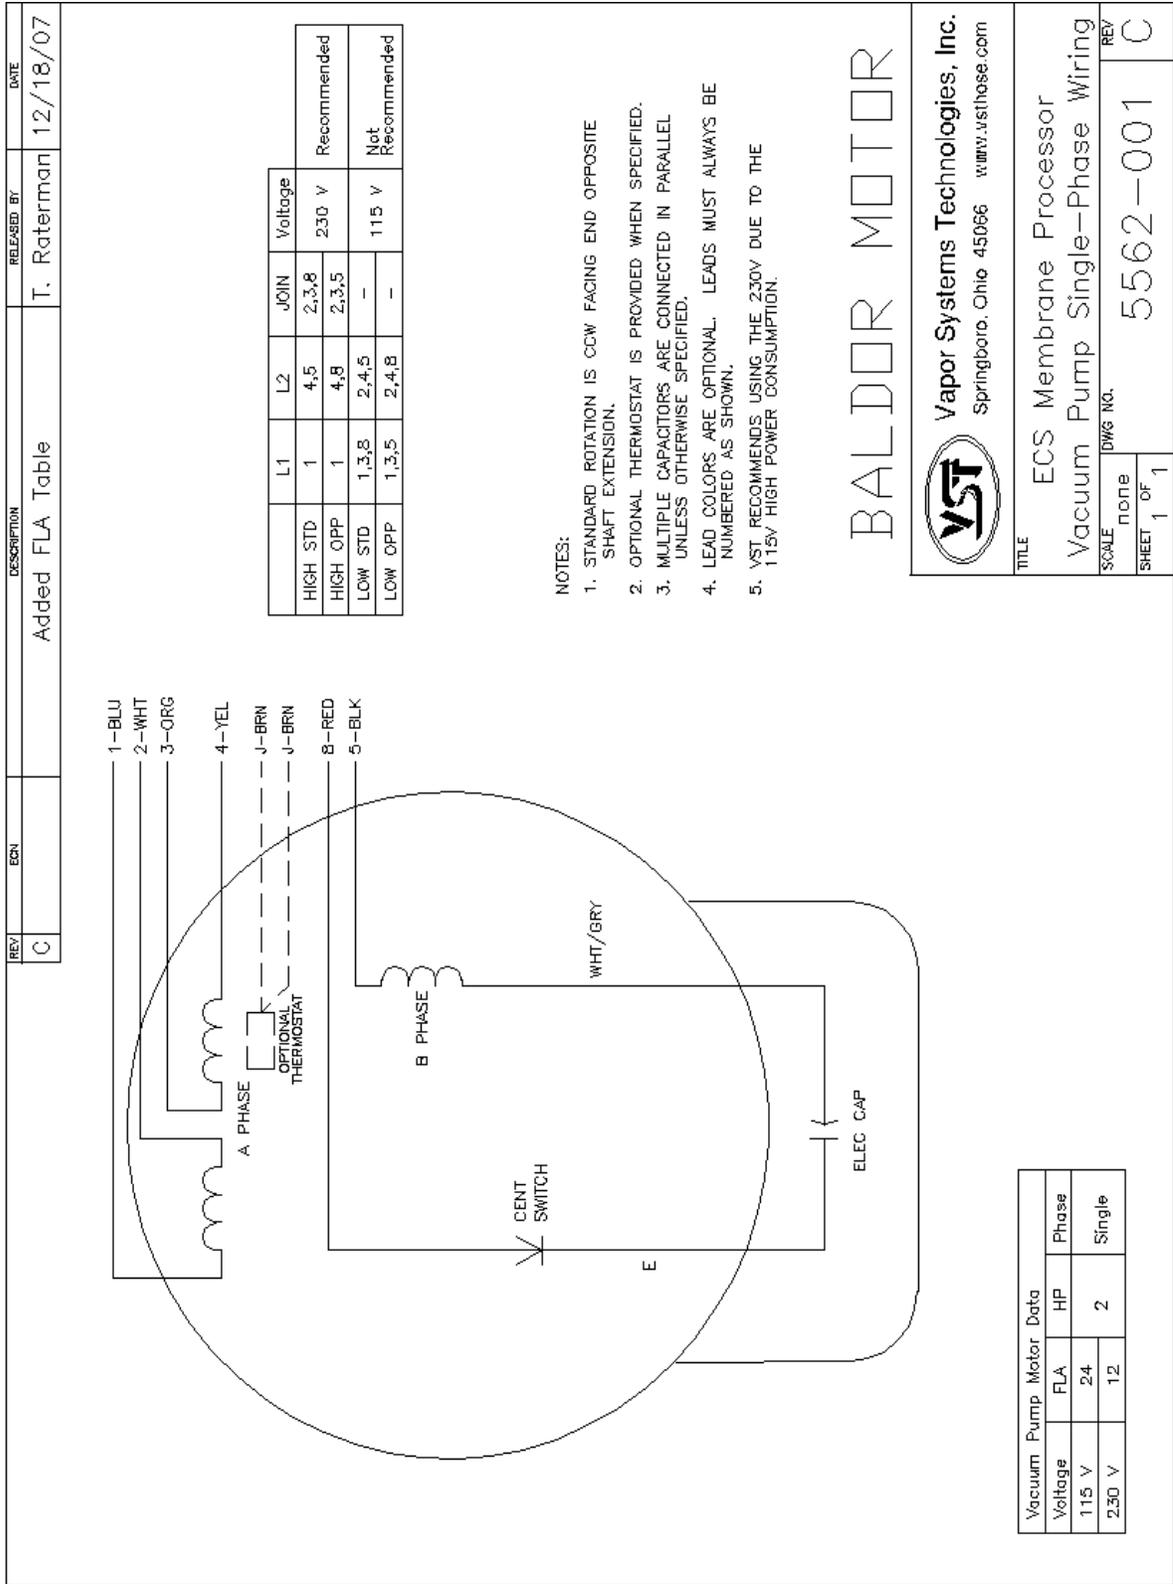
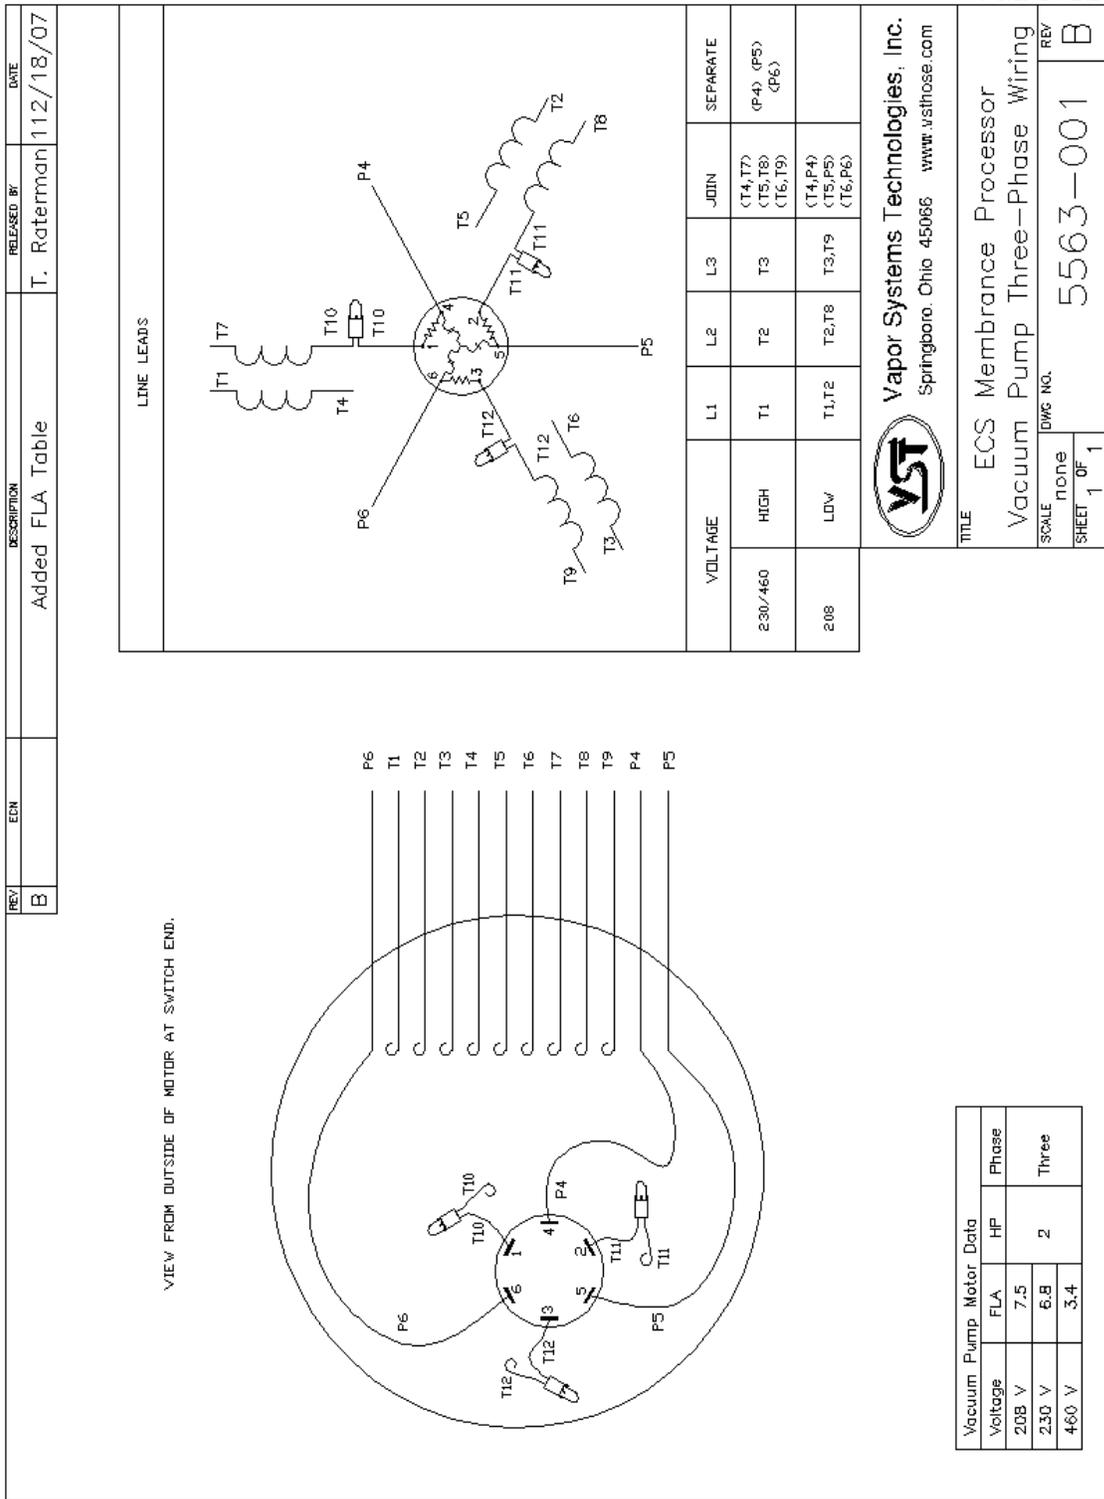

Figure 14: Vacuum Pump: Single-Phase Motor Wiring Diagram
Figure 15: Vacuum Pump: Three-Phase Motor Wiring Diagram
- ▶ See Figure 14: Page 15-43 and Figure 15: Page 15-44.